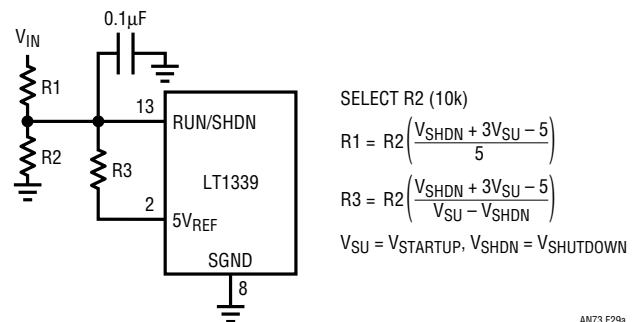

Figure 29a RUN/SHDN Pin
This pin implements the user-programmed undervoltage (UV) lockout. By placing a resistor divider from V_{IN} at this pin to ground, any UV lockout voltage from 1.25V through hundreds of volts can be programmed. Internal hysteresis of this pin is internally set at 15mV (1.2% of the 1.25V switching point). Additional hysteresis can be implemented by adding a resistor from this pin to the $5V_{REF}$ pin (see Figure 29a).